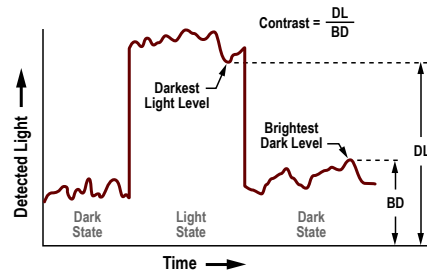

Figure 2. Light Levels
The DF-G1 Fiber Optic Light Receiver detects both the light of interest and ambient light. Figure 2 on page 5 shows simulated light levels for both the dark state and the light state. The dark state is the amount of light detected when the external light of interest is not present. Conversely, the light state is the amount of light detected when both the ambient and external light of interest are present. In the dark state, the graph shows that light detected can change with time. Changes in the dark state light levels are caused by variations in the ambient light levels (perhaps sunlight or factory light variations). Typical variations in the detected light level when the external light of interest is present (light state) are also shown in the figure. Note again that the light level can vary with changes in the ambient light level.
A successful sensing application is obtained when the sensor can detect between the light and dark conditions. Two important points shown in Figure 2 on page 5 are the brightest dark level (BD) and the darkest light level (DL). These values represent the key values for determining if the application will be successfully detected. The application goal is to maximize the light level detected in the darkest light state. Using this concept of contrast, calculate the contrast available to ensure a good sensing application. The contrast should be greater than 2 for robust sensing applications.